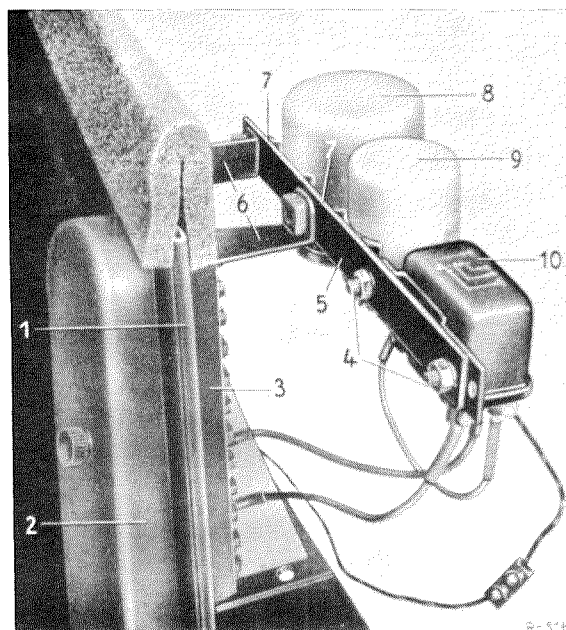

Fig. 82—19/3
4. Unscrew the two hexagon screws (7) for fixing the two flash signal mechanisms (8) and (9) (see Fig. 82—19.3).
5. Fix the bracket (5) for the contactor (10) with the two flash signal mechanisms (8) and (9) to the bracket (6), screwing in the two hexagon screws (7) with lock washers (Fig. 82—19.3).